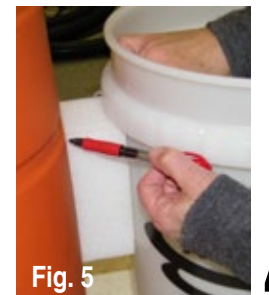

Fig. 5
- 3.) Wheel the bucket up to your shop vacuum and see where the best placement for foam block will be on your vac. Use the Foam Block template on page 14 to mark where block will attach on your vacuum and bucket as shown in Fig. 5. **You should attach bucket to the side of vacuum opposite the vac inlet. See Example 1 above.**